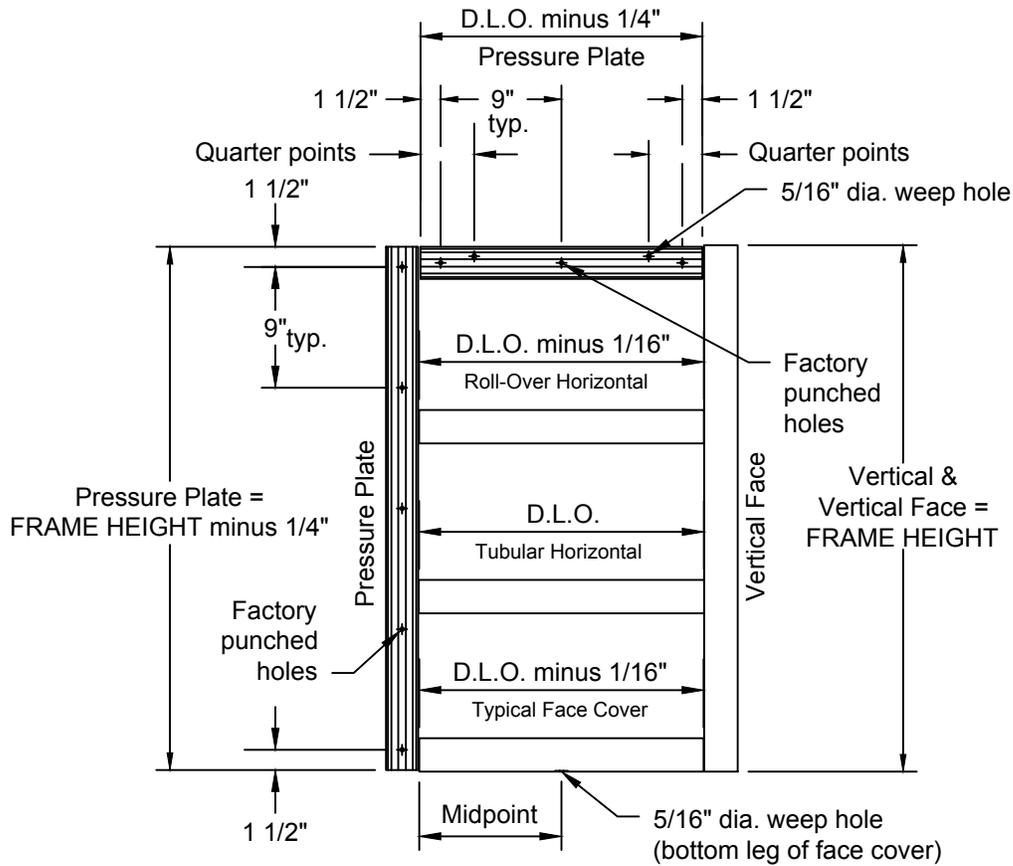

FIGURE 1
1.2 Cut material to size. **SEE FIGURE 1 page 6** for guide.